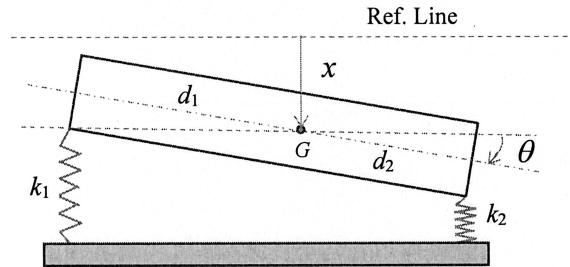

Figure: 4(a): A system with x and θ chosen as the degrees of freedom.
- (b) If the degrees of freedom are chosen as x_A and θ (see Fig. 4(b)), where x_A is the displacement of the point A such that $k_1 d_3 = k_2 d_4$ and A is at a distance of e from G , derive the matrix equations of motion symbolically in terms of m, k_1, k_2, d_3, d_4, e and J_A . Note that d_3 and d_4 are the distances between the left end and A , and between the right end and A , respectively. Also, J_A is the mass moment of inertia of the system with respect to A . Hint: $J_A = J + me^2$ and $x = x_A + e\theta$.